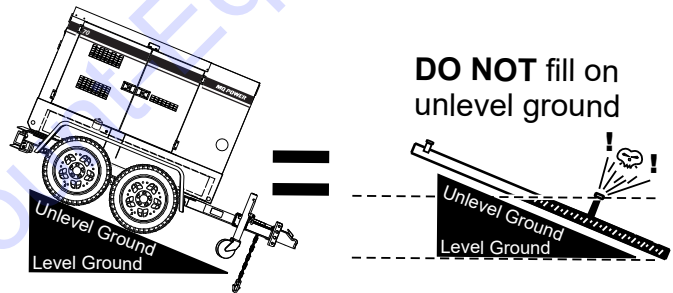

Figure 34. Only Fill on Level Ground
1. **Level Tanks** — Make sure fuel cells are level with the ground. Failure to do so will cause fuel to spill from the tank before reaching full capacity (Figure 34).